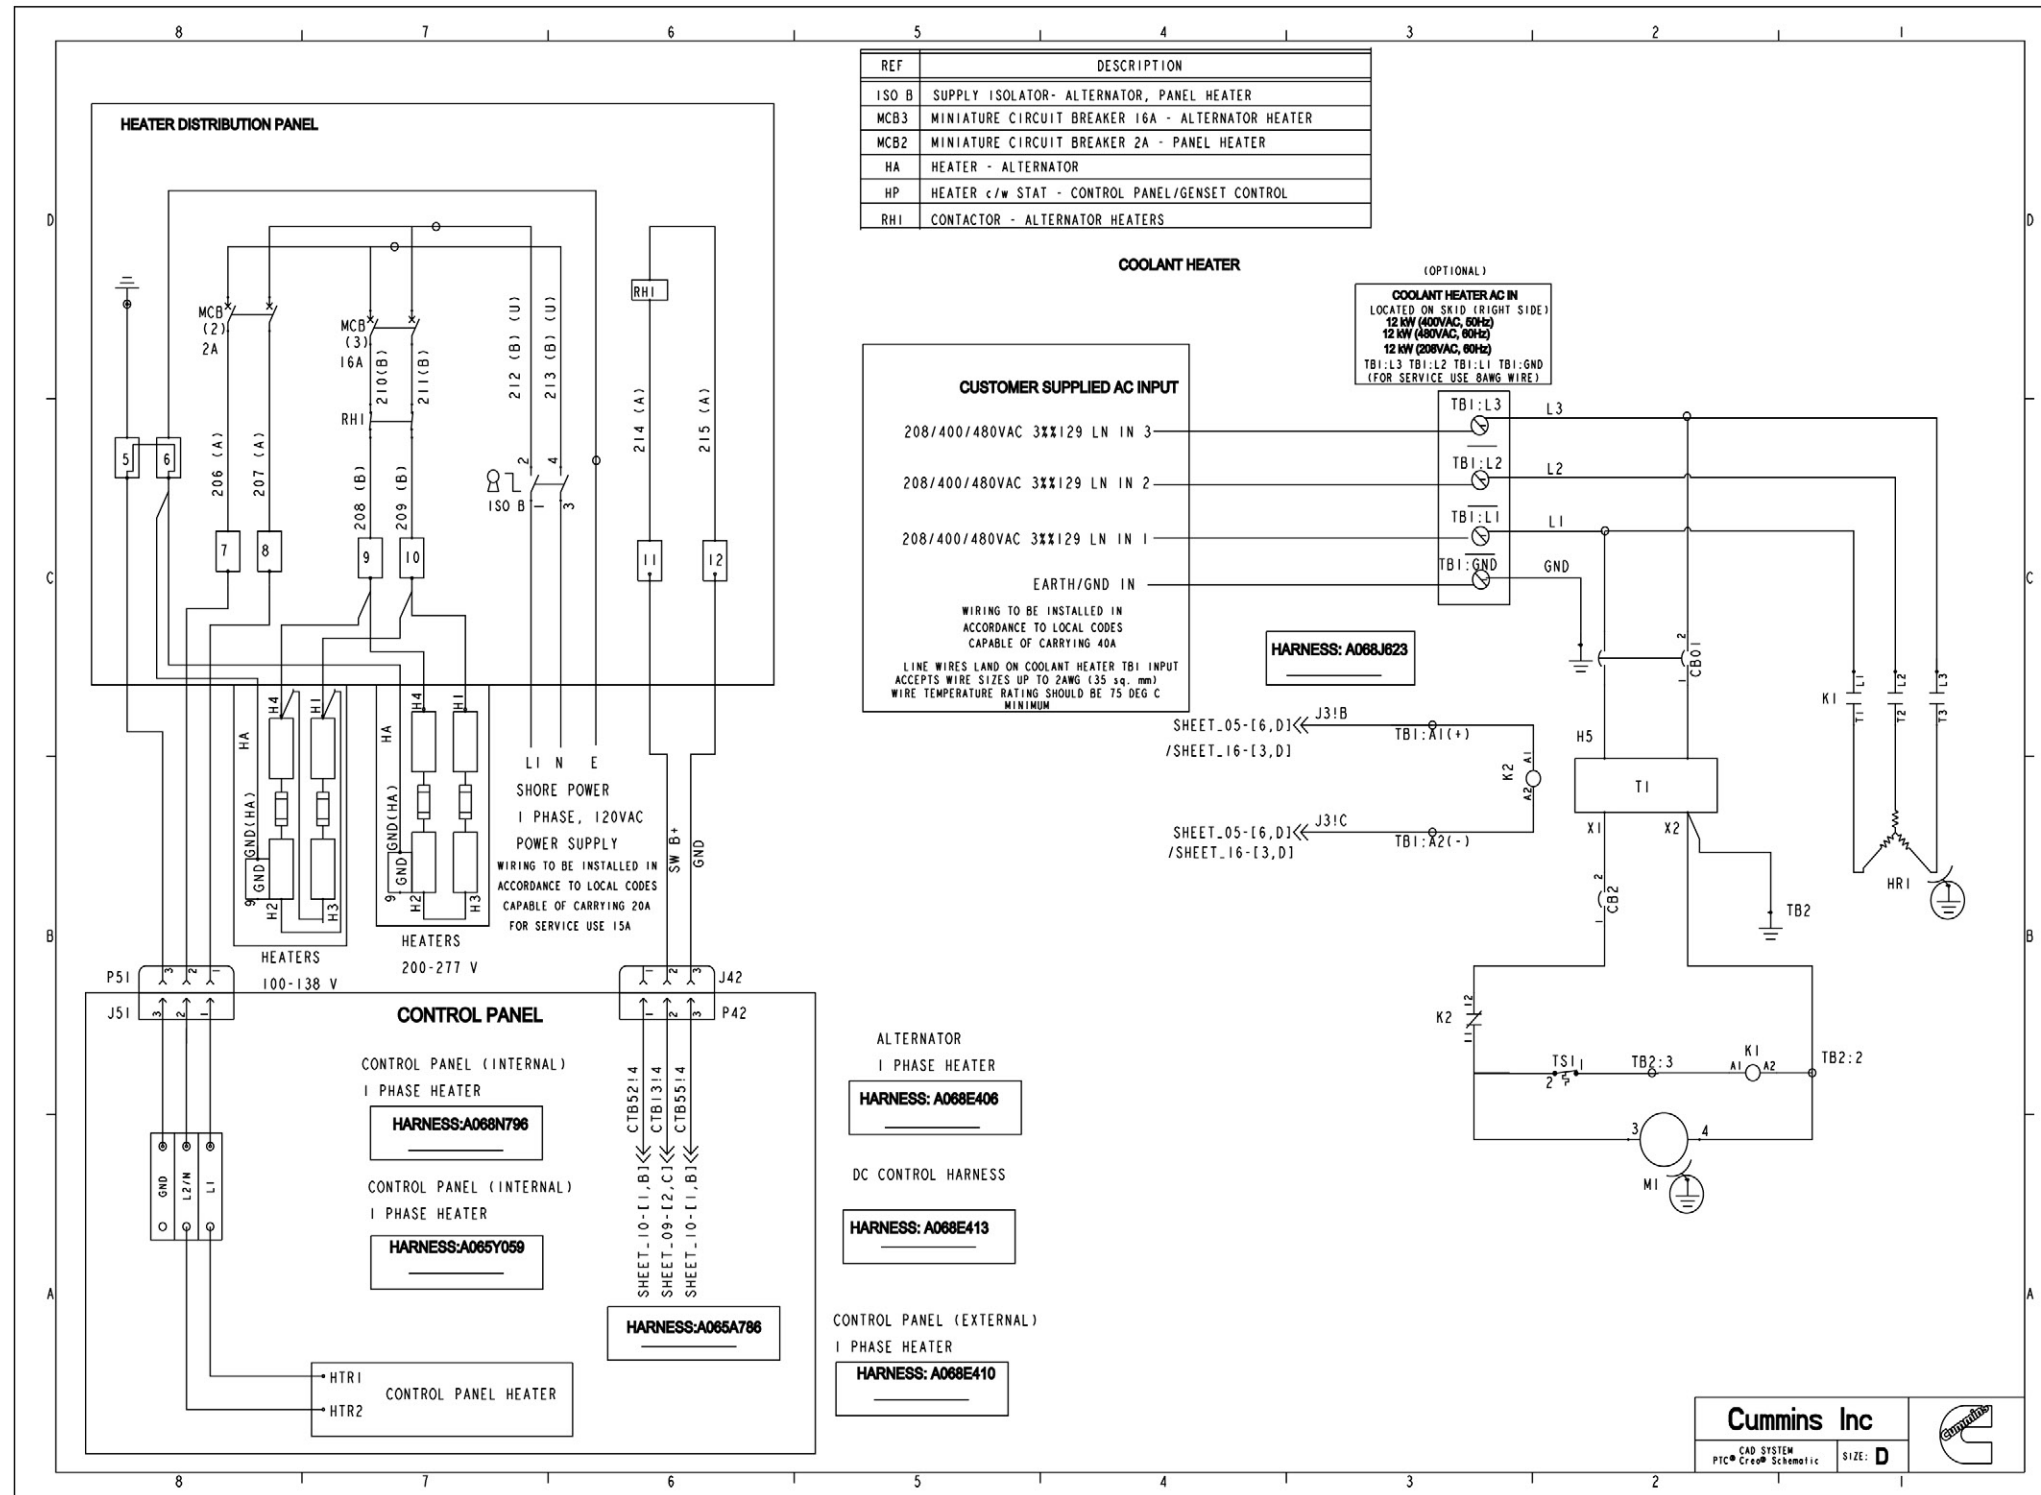

FIGURE 68. WIRING SCHEMATIC (SHEET 13)
- Figure 68. Wiring Schematic (Sheet 13) 123